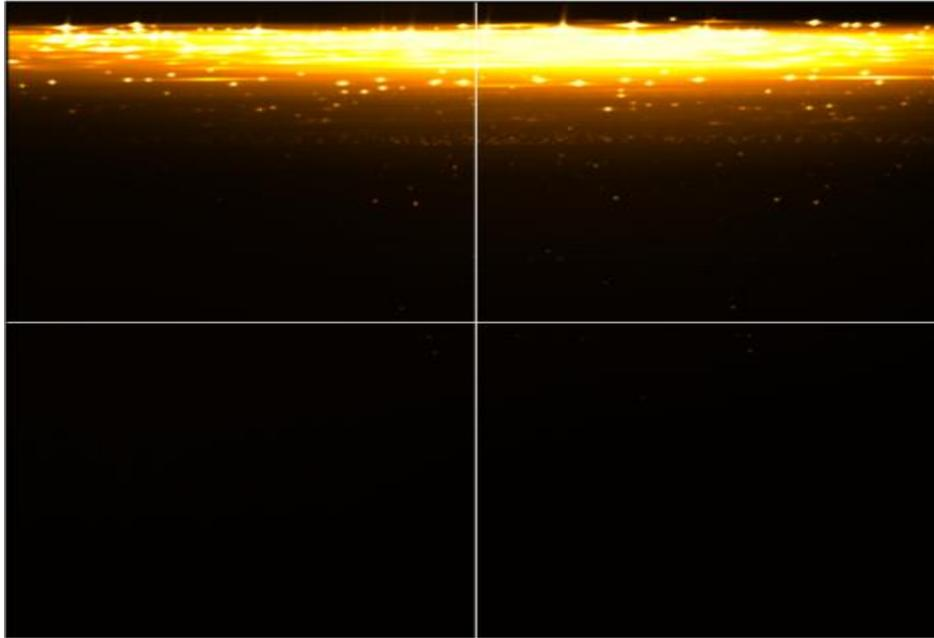

Fig. 6.19
- 4 Open: Check *Open sample* or *Blank*, select *Integration time* to open the corresponding full-size 2D spectrum(Figure 6.19).